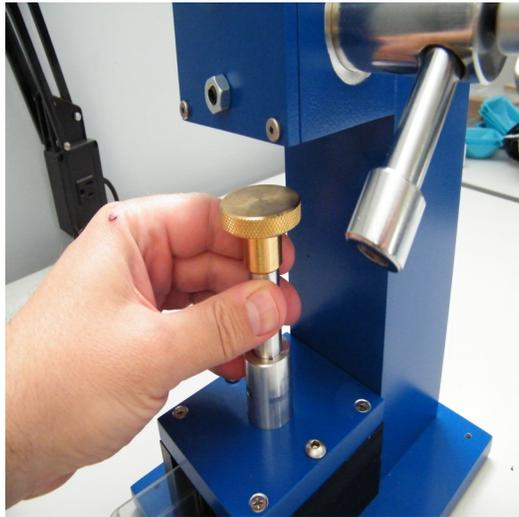

Figure 2: Aluminum shaft of plunger engaged against bottom window holder
5. Place the aluminum shaft of the plunger into the bottom hole in the housing. The plunger will press against the surface of the aluminum bottom window holder. (see Figure 2)